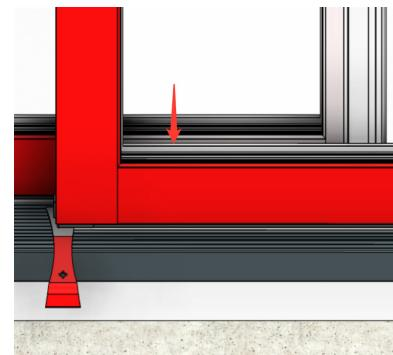

Fig P11
- The panel will then fully sit down into the track (Fig. P11). Remove the pry-bar from under the panel by pulling directly outward